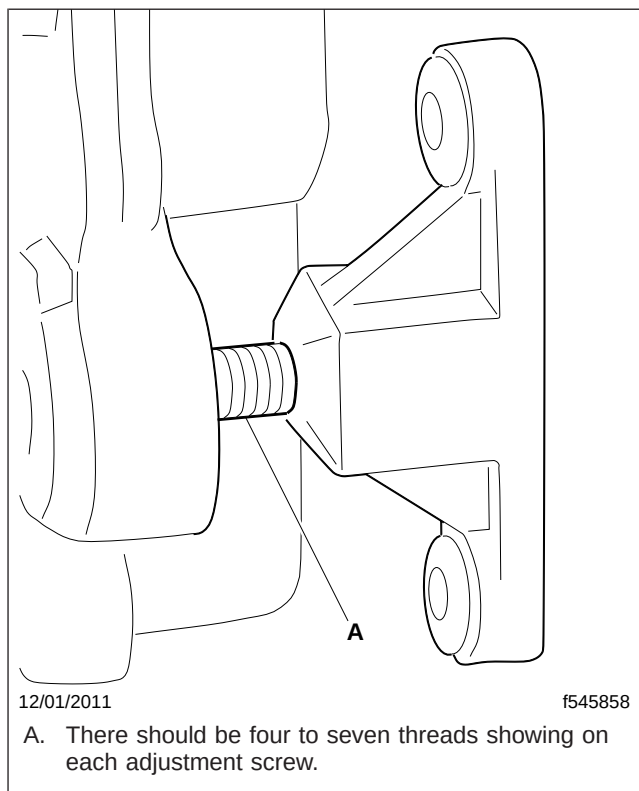

Fig. 5, Correct Antenna Alignment
4. Make sure that the antenna is the correct distance from the mounting towers. There should be four to seven threads showing on each adjustment screw. See Fig. 5.